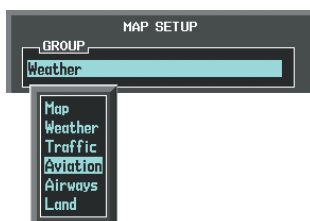

Figure 6-48 Navigation Map Page Setup Menu
- 4) Turn the small **FMS** Knob to select the Aviation Group and press the **ENT** Key (Figure 6-48).